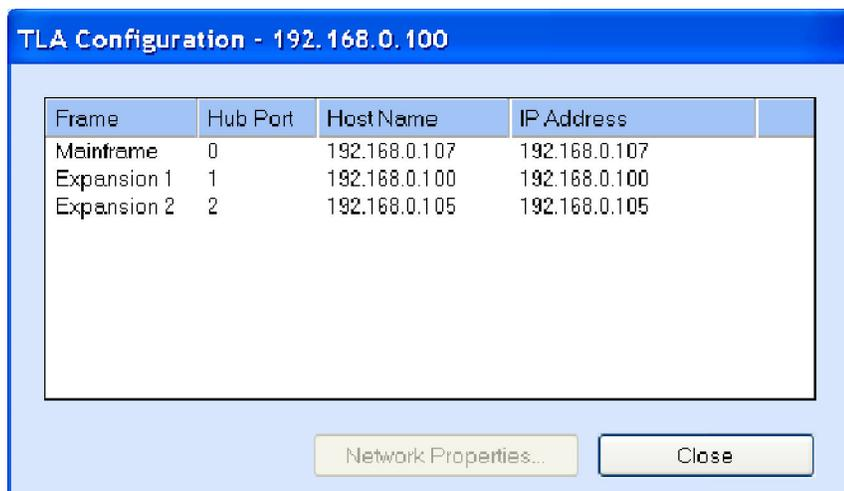

Figure 27: Instrument search results
11. Click the Configuration icon and verify that the system is configured as you intended. Note that in systems with three or less benchtop mainframes, physically merged modules are not automatically established as a merged set until you merge them through software. (See Figure 27.)